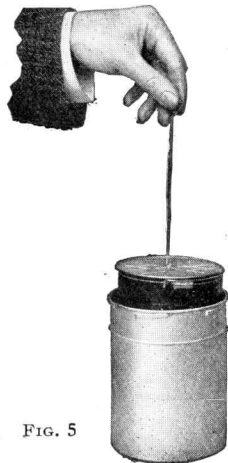

FIG. 5
14. The wire hook is to be used for lifting the reel out of the cup (Fig. 5). Hook on to the cross-bar in one end of reel. When the end of reel containing cross-bar is at the bottom of cup, the hook is just long enough to catch the cross-bar.